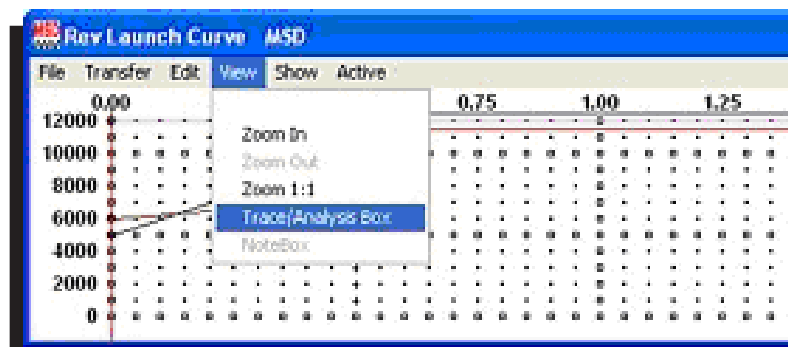

Figure 4 Viewing the Trace/Analysis Box.
1. From the top menu bar, select View and Trace/Analysis. This brings up the legend for the chart (Figure 4).